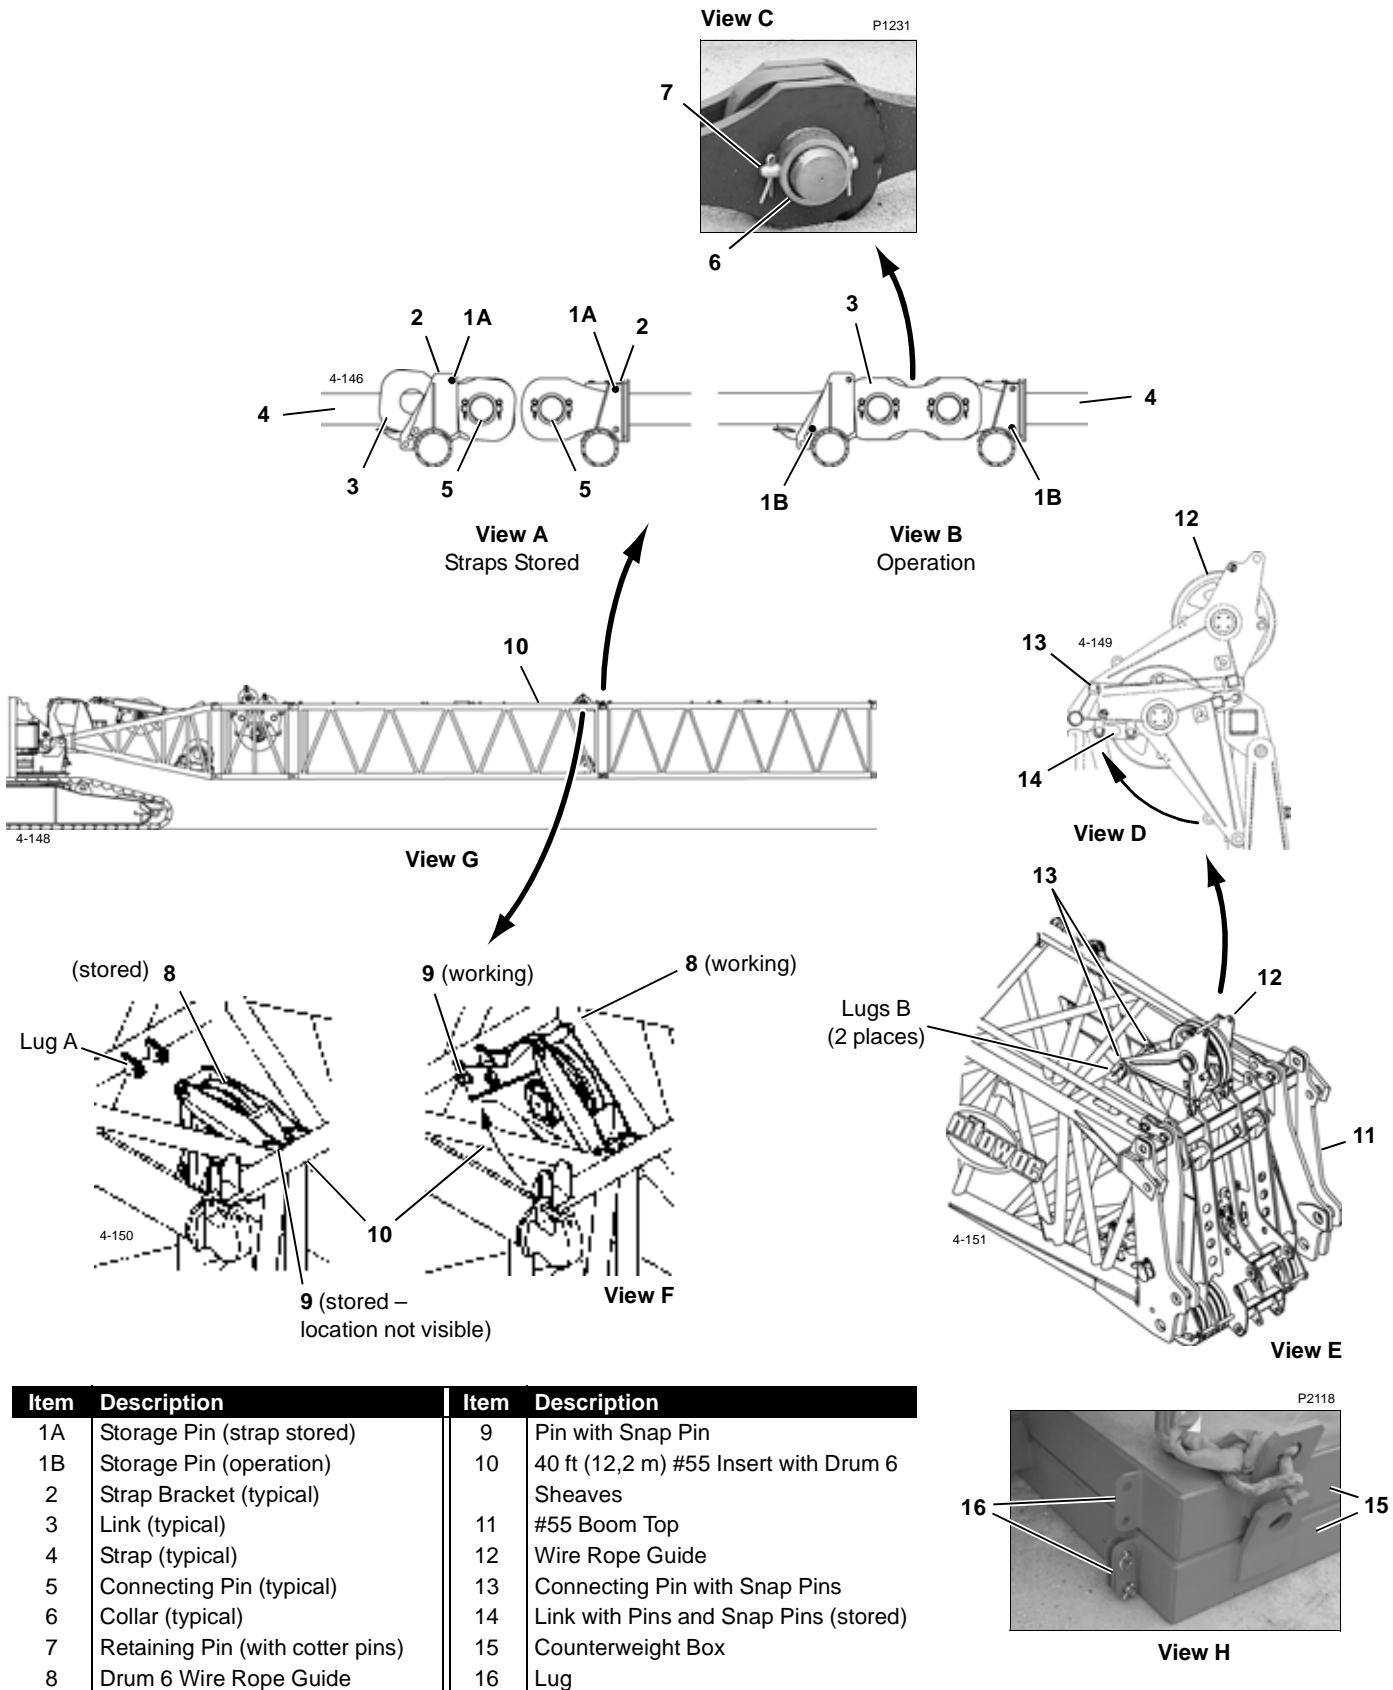

FIGURE 4-18
See Figure 4-18 for following procedure.
10. If necessary, add lugs (16) for counterweight tie links to top crane counterweight boxes (15), one on each side, as shown in Figure 4-18, View H.